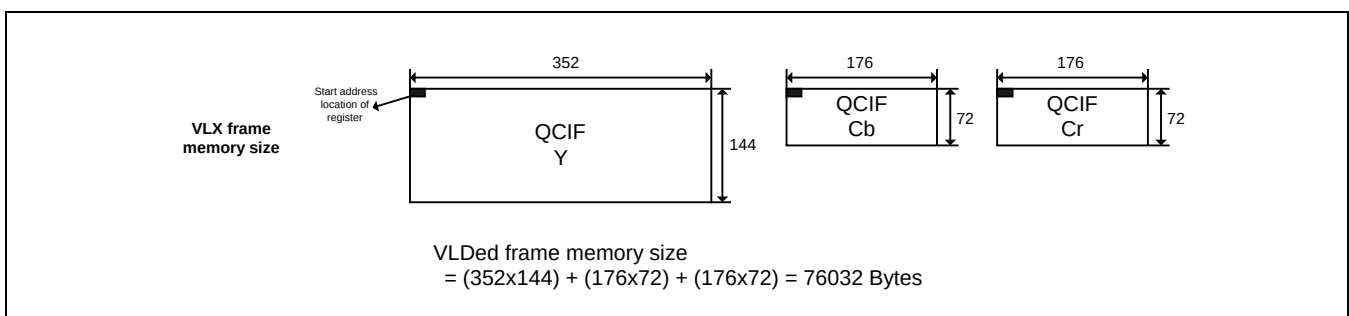

Figure 24-23. External Memory Amount in VLD Mode.
Decoded coefficient data saved external memory Y image, Cb image, and Cr image. Figure 24-23 is example external memory amount. So special function register **Y_START_ADDR**, **CB_START_ADDR**, **CR_START_ADDR** must be set.
- VLD output is saved image format in external memory. Figure 24-23, 24-24 show the external memory